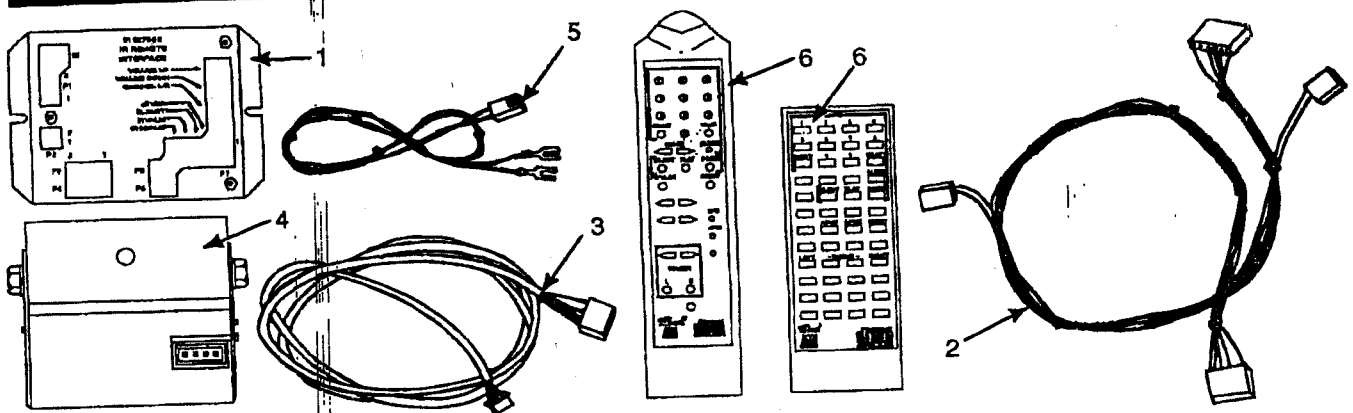

Figure 1. Kit Parts
2. Place the infrared interface assembly (*figure 1, ref. 1*) approximately 2 inches to the right of the central control computer. Slide the infrared interface up or down slightly so that the lower edge of the infrared interface is at approximately the same height as the lower edge of the Central Control Computer (CCC). Once the infrared interface assembly is in position, fasten it to the phonograph wall with two #8 X 5/8 screws.
3. Connect the Segue-To-CCC harness (*figure 1, reference 2*) between the IR Interface assembly (*figure 1, ref. 3*) as follows:
4. Plug the small connector on the IR Receiver harness (*figure 1, ref. 3*) into the IR receiver assembly (*figure 1, ref. 4*).
Plug the 2-pin connector of the IR interface-to-AMP harness (figure 1, ref. 5) into P2 of the interface, then do Part A, B, C, or D; whichever applies to your installation